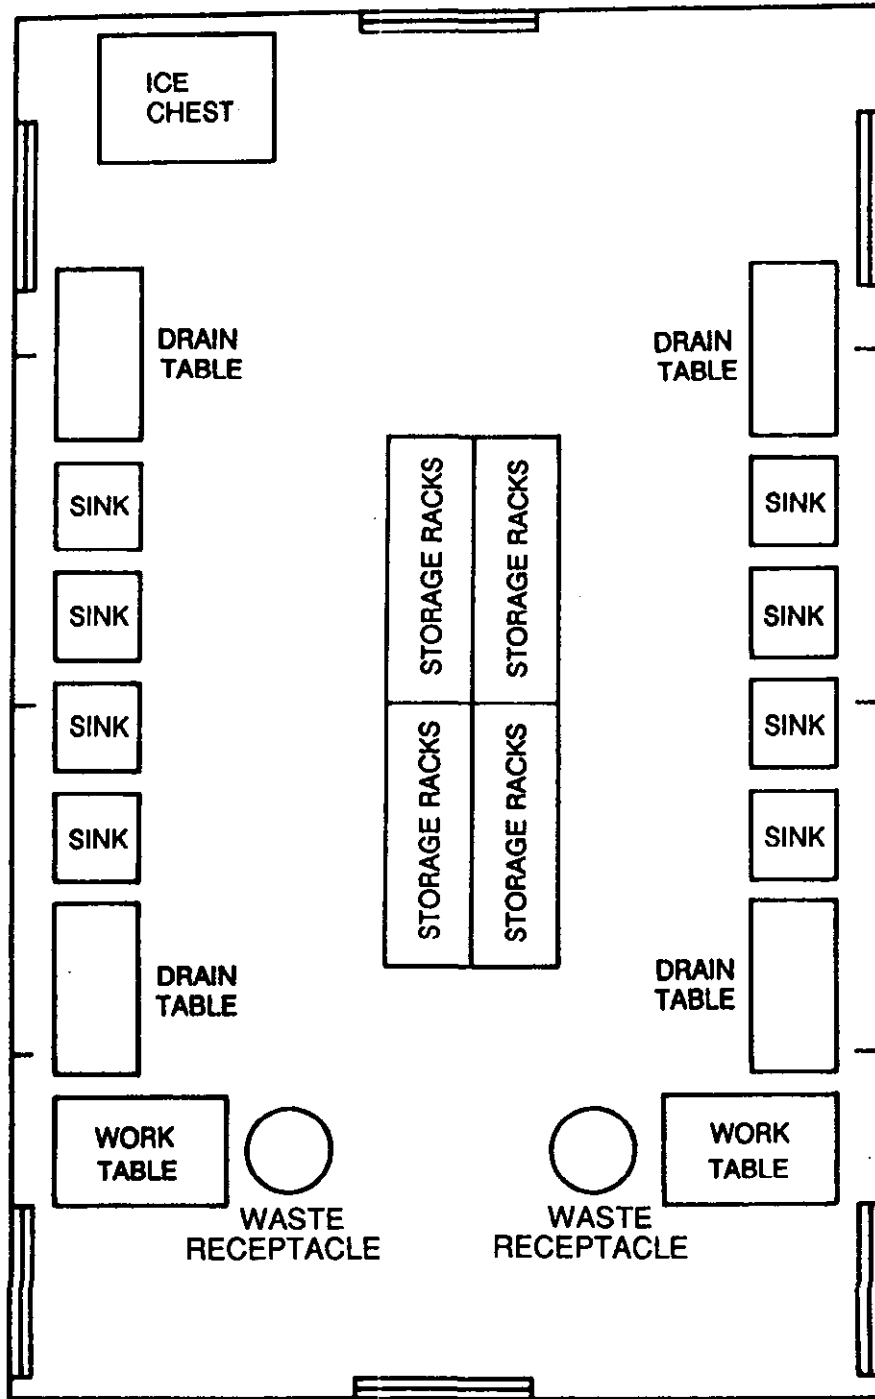

Figure 2-3. Food Sanitation Center – Optional Configuration Combat Support Hospital, Deployable Medical Systems
(4) Deployable Medical Systems. An optional configuration, 32 x 20 foot (9.8 x 6.1 meters), used by DEPMED's personnel in a combat support hospital is shown in Figure 2-3. Refer to Deployable Medical Systems User's Manual for Instructions.